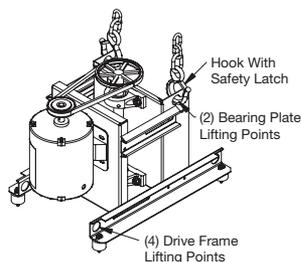

Figure 3
4. Use lifting points on the drive frame to lift and place the unit on top of roof curb. See Figure 3.